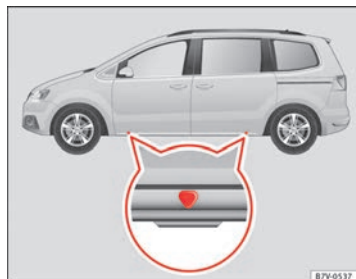
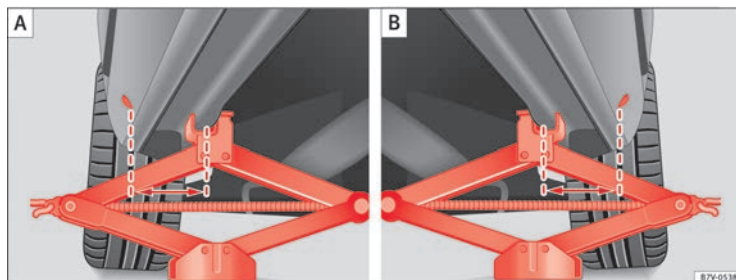

Fig. 185 Jack position points
Fig. 186 Ⓐ: jack mounted on the left front part of the vehicle Ⓑ: jack mounted on the left rear part of the vehicle
The jack may be applied only at the jacking points shown (marks on chassis) ⇒ Fig. 185. The mark indicates the jacking points **below** the vehicle. The jacking points are on the ribs **behind** the front edges ⇒ Fig. 186. Always the relevant jacking point for the wheel to be changed ⇒ ⚠.
5. Look below the vehicle for the jacking point ⇒ Fig. 185 closest to the tyre which has to be changed.
7. Ensure that the foot of the jack is firmly on the ground and that it is placed immediately below the lifting point on the vehicle ⇒ Fig. 186.
8. Straighten the jack and continue raising it using the handle until the claw holds the vertical reinforcement beneath the vehicle ⇒ Fig. 186.
- Only fit the jack at the prescribed jacking points. The claw of the jack should grip the reinforcement nerve on the underbody ⇒ Fig. 186.